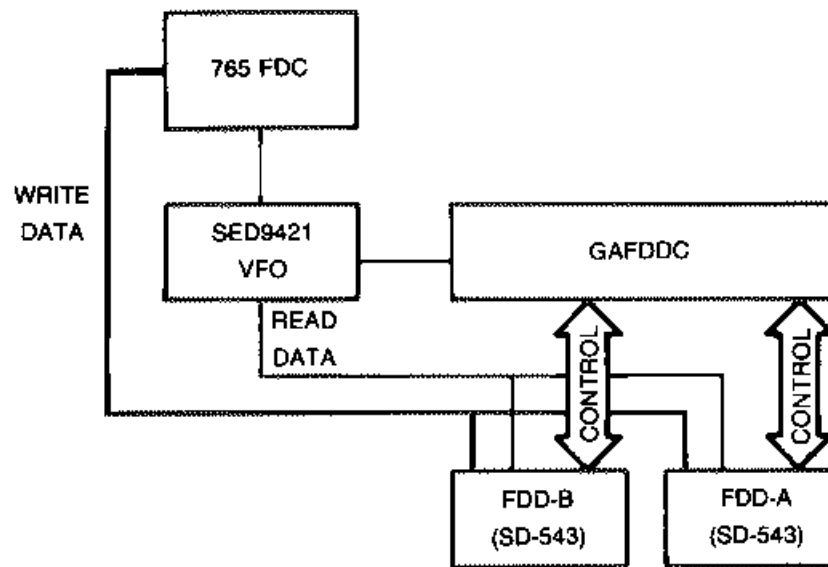

FIGURE 2-59. FLOPPY DISK CONTROLLER BLOCK DIAGRAM
2.3.4.5 Floppy Disk Controller — μ PD765A, GAFDDC, and SED9421COB (Figures 2-59 through 2-66)